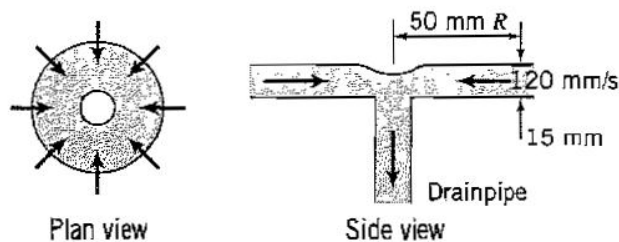

Figure P3.6:
3.6 Water flows radially toward the drain in a sink, as shown in Figure P3.6. At a radius of 50 mm , the velocity of the water is uniform at 120 mm/s , and the water depth is 15 mm . Determine the average velocity of the water in the 30 mm diameter drain pipe.